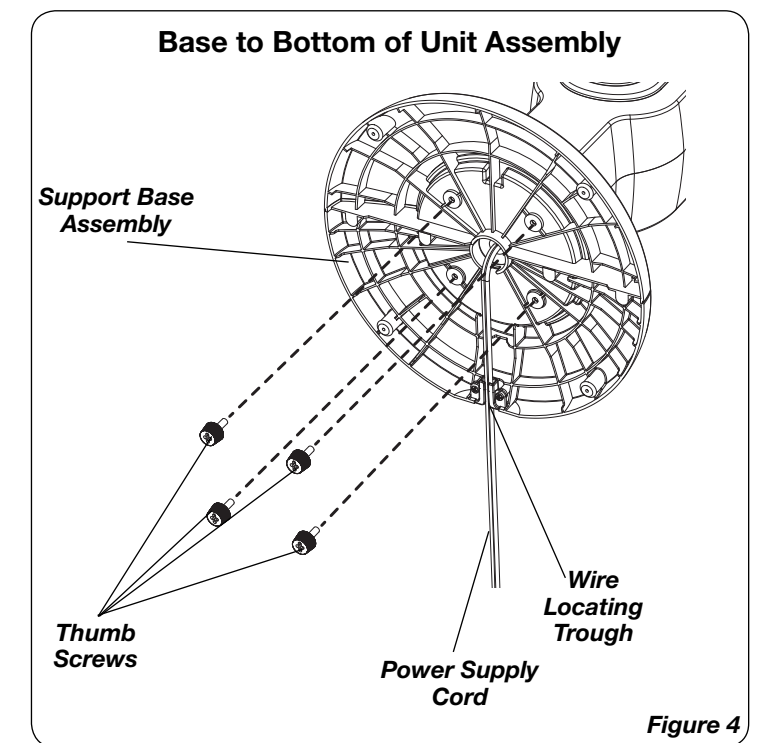

Figure 4
- Secure the **Support Base Assembly** to the bottom of the Fan with (4) **thumb Screws**. Gently pull any excess slack of the **Power Supply Cord** and place it in the **Wire Locating Trough**. (*Figure 4*)